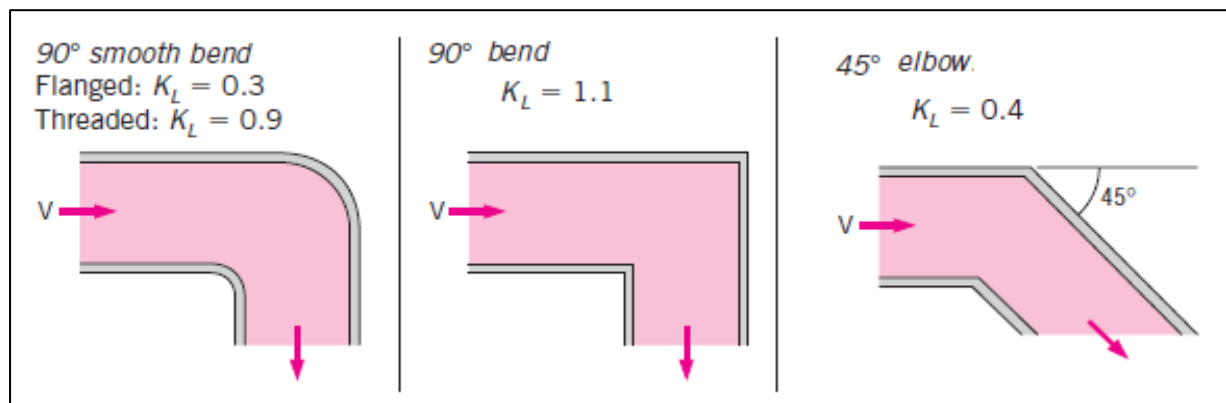

Figure 13. K_L for Bend (Elbow)
- The loss coefficient for a pipe bend (elbow) is shown in Figure 13.